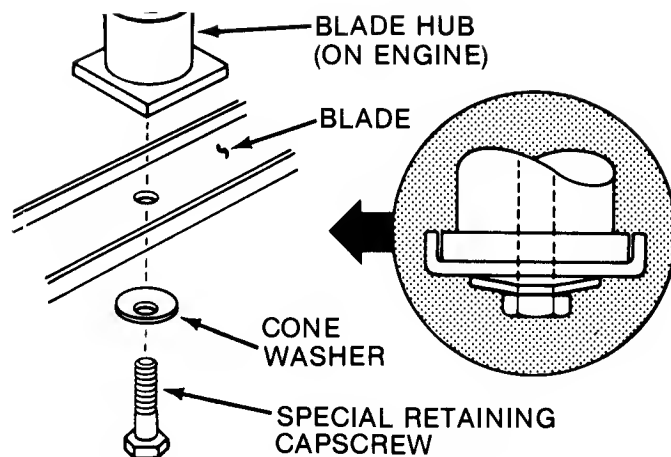

FIG. 14 - BLADE RETENTION DETAIL
**INSTALL** blade with components in sequence shown in Figure 14. Make sure that the turned-up rims in the center of the blade fit over the edges of the blade drive hub when installing. Do not substitute any components here. Tighten the blade retaining capscrew to **30 foot pounds torque**